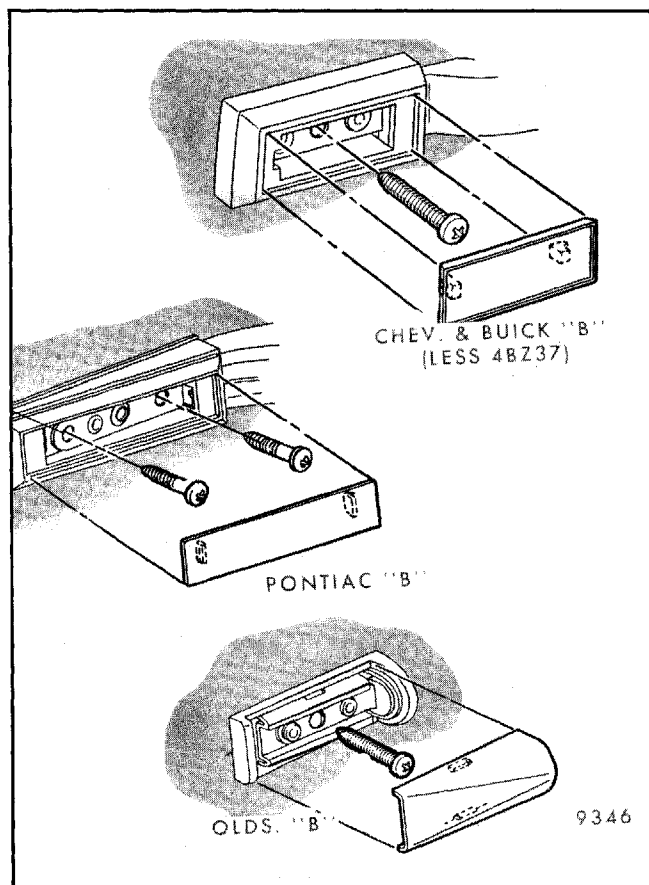

Fig. 5-1-Typical Door Pull Handle Attachment - B Styles
Door inside pull handles are secured to the trim pad with rivets, screws or stud nuts on the outboard (reverse) side of the trim assembly prior to trim installation. In addition, on some styles, the handles are secured to the door inner panel with screws installed from the inboard side after trim installation. With this method of installation, the pull handle and trim pad are removed from the door as an assembly (Figs. 5-1 through 5-7).
3. On styles equipped with door pull handles, remove screws inserted through handle into door inner panel. (For location of screws, refer to Figs. 5-1 through 5-7).